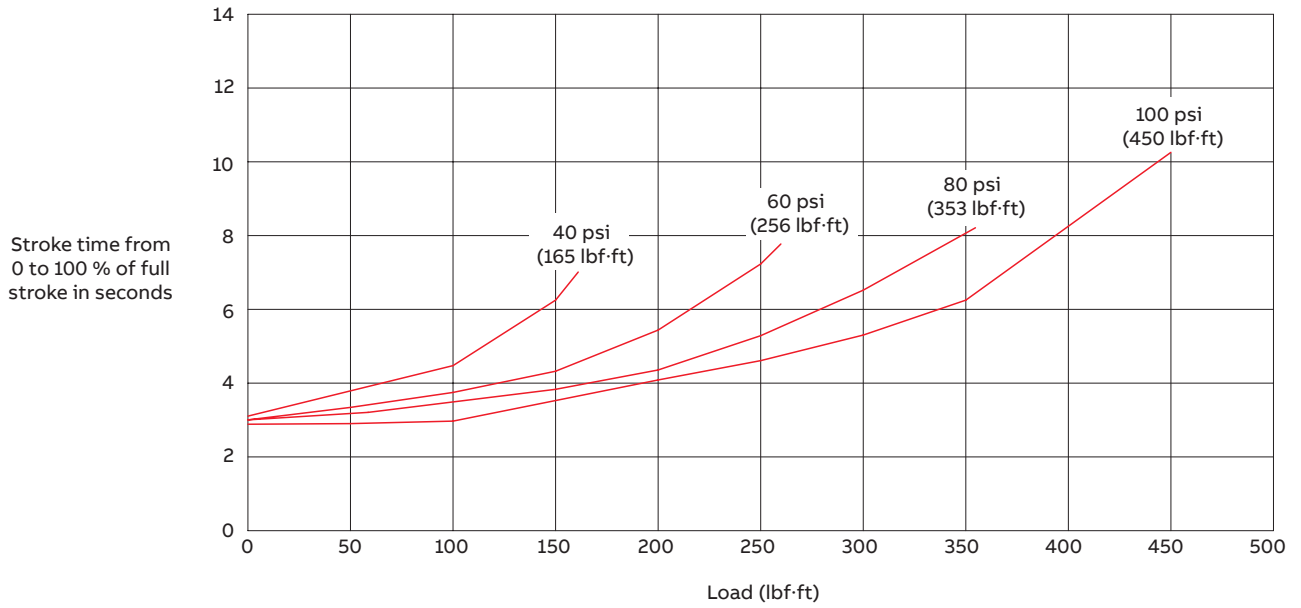

Figure 10 Stroke times for UP2 actuator with solenoid valve
- The stroke time curves shown in Figures 10 to 14 were generated from actual tests. The stroke times are for actuator rotations from 0 to 100 % of full stroke (0 to 90° of rotation). To obtain the stroke times shown in the curves: